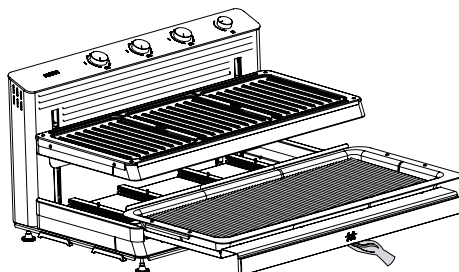
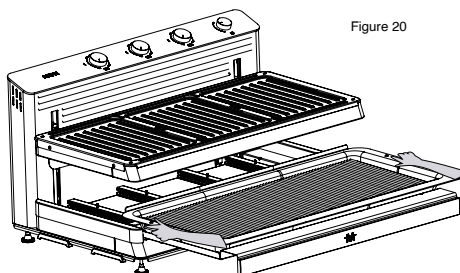

Figure 20
Figure 21
- After the appliance has fully cooled, pull the handle toward you (Figure 20) and carefully remove the tray and grill inside (Figure 21).